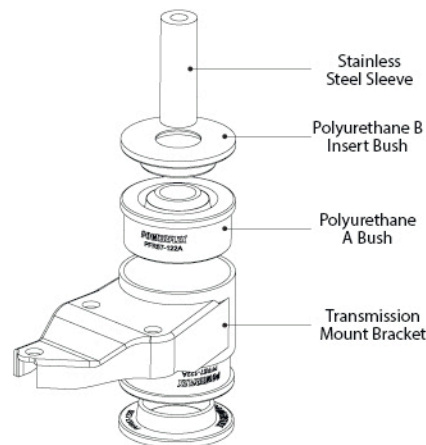

Figure 2: Exploded Assembly - Increased Rigidity
5. To increase rigidity of bush fit polyurethane B insert bushes into polyurethane A bushes. As shown in *Figure 2*.